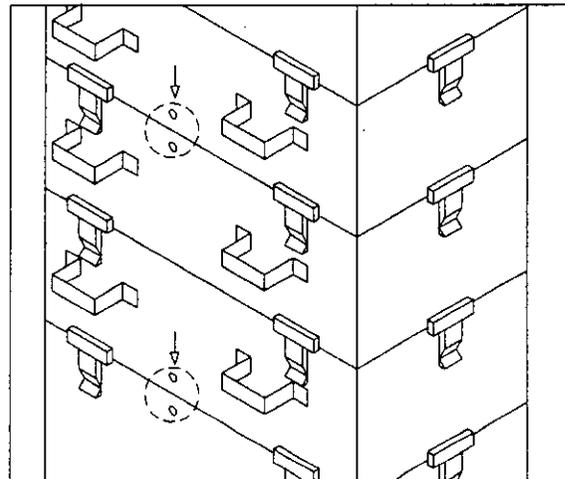

Figure 1 - Proper Alignment of UltraStrip Buttons
F. Before and during disassembly, it is important to note the placement of the aeration trays. Taking time to familiarize yourself with the UltraStrip unit will make reassembly faster and easier. Alignment of buttons on trays, sump and demister should be noted. Proper assembly of the UltraStrip requires alignment of buttons as shown in Fig. 1.